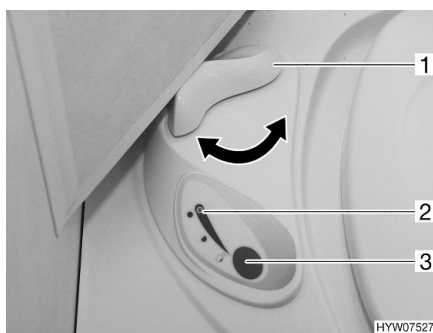

Fig. 112 Operating unit Thetford toilet
- Before flushing open the sliding trap of the Thetford toilet. To do this, turn the slide lever (Fig. 112,1) in an anticlockwise direction.
- For flushing, press the blue flush button (Fig. 112,3).
- After flushing close the sliding trap. To do this turn the slide lever (Fig. 112,1) in a clockwise direction.
The indicator lamp (Fig. 112,2) lights up whenever the Thetford cassette has to be emptied.
- Turn the slide lever (Fig. 112,1) in a clockwise direction. The sliding trap is closed. To empty, the sliding trap in the Thetford toilet **must** be closed.